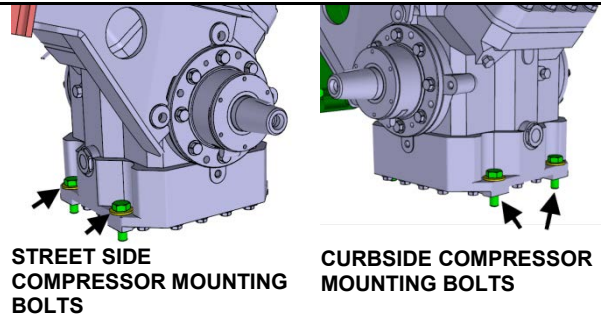

FIGURE 26
32. If bolts **C** & **E** (see two previous steps) are difficult to align in the hole, the compressor may be moved. Loosen the compressor mounting bolts (4x) at the base (see FIGURE 26